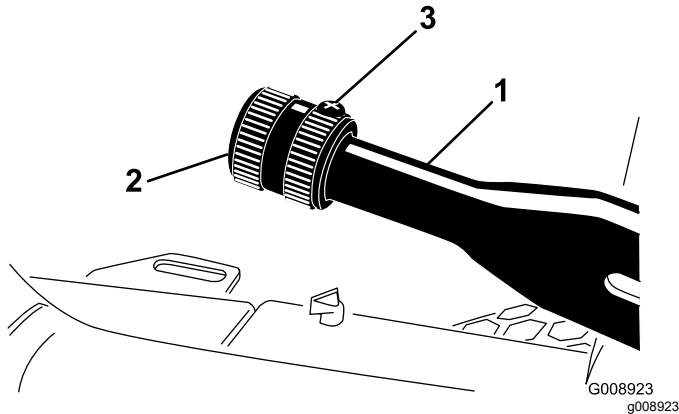

Figure 82
2. Loosen the setscrew securing the knob to the parking-brake lever (Figure 82).